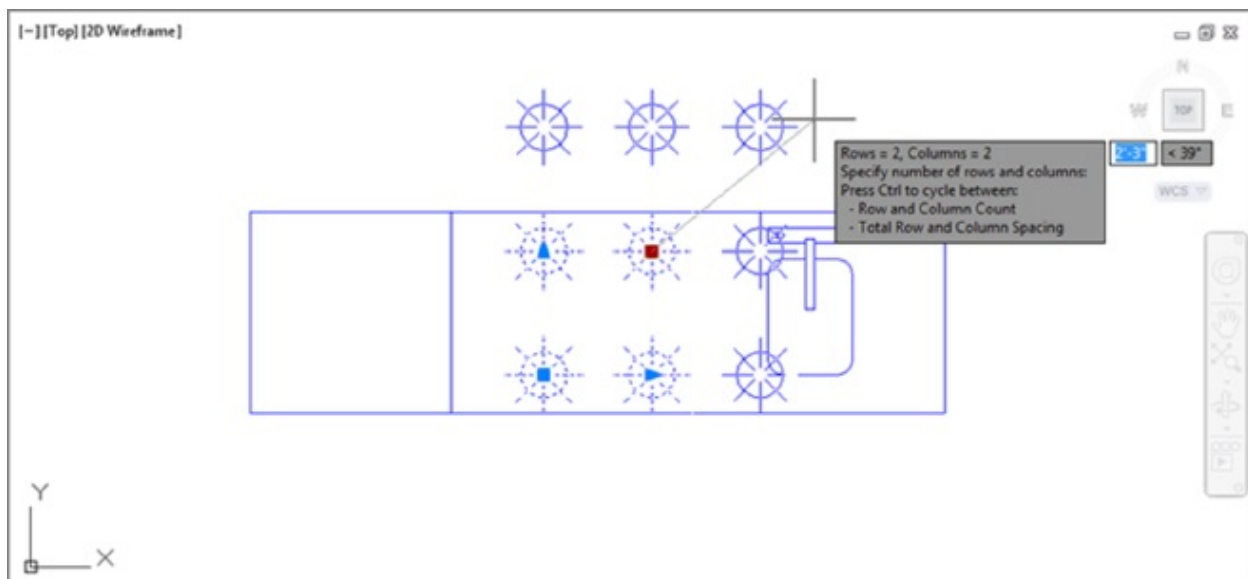

FIGURE 6.16 The rows and columns increase as you move the cursor farther from the base point.
4. Select the Row And Column Count option from the menu. Now, as you move the cursor up and to the right, additional burners appear. The farther to the upper right you move the cursor, the more rows and columns will appear (see Figure 6.16).